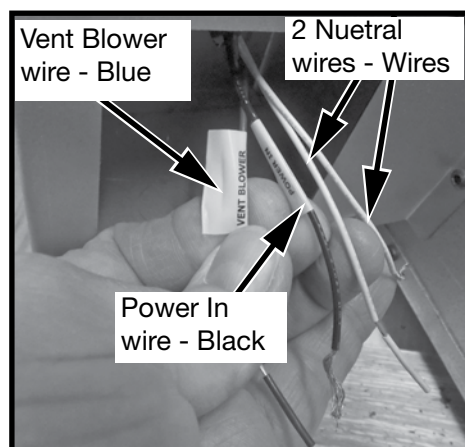
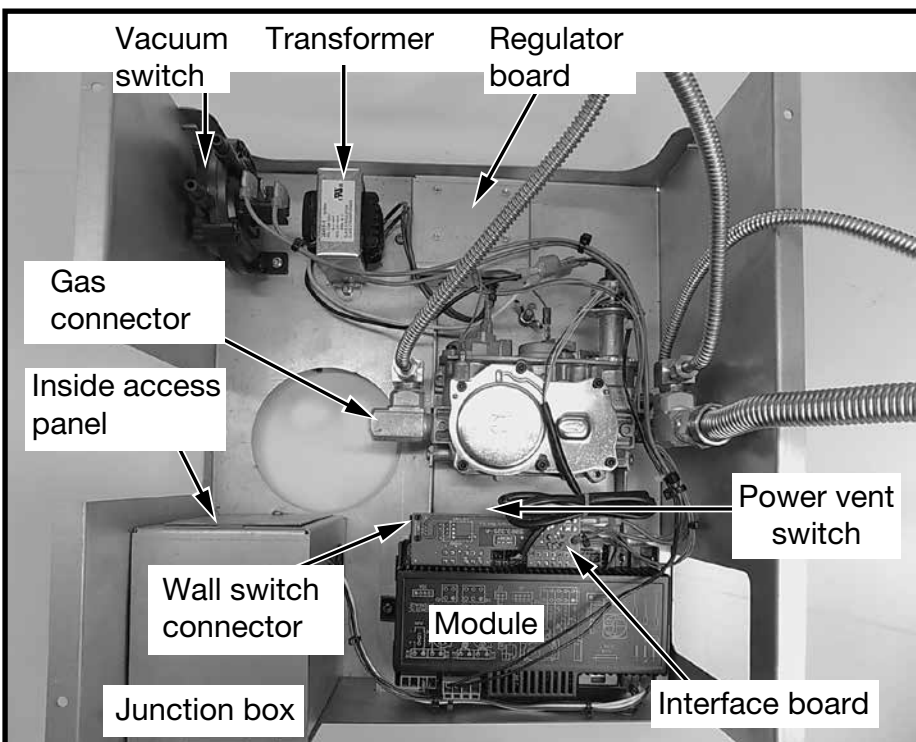
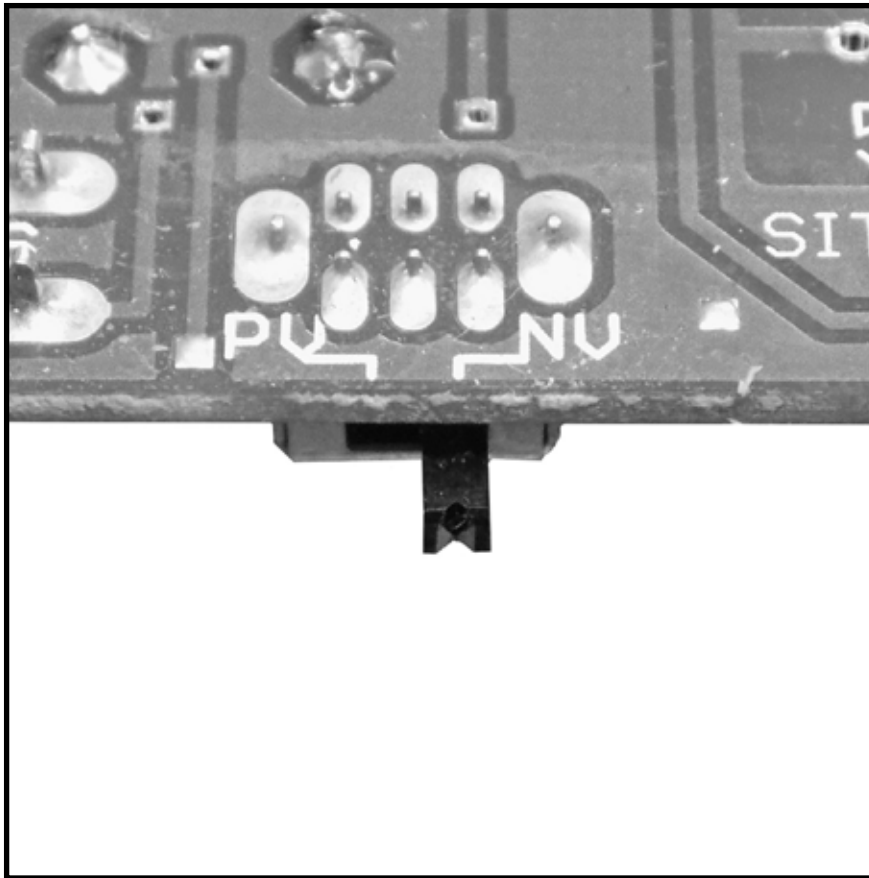

Figure 29: Junction box wiring.
Figure 30: Valve assembly components.
Figure 34: Vent mode selection switch.
4. Connect 110 V. AC electrical supply to the wires installed inside the junction box (Figure 29). The fireplace is rated at 110 volts, 60Hz, 0.25A. The optional power vent kit is rated at 115 volts, 60Hz, 1.8A.
The electrical wires can be accessed from both inside and outside the junction box by removing one of the two small access panels (Figure 29) or (Figure 30).
7. Attach one end of the wall switch control cable to the wall control. (Figure 33), and the other end to the interface board (Figure 30).
The PV / NV (Power Vent / Natural Vent) switch (Figure 34) on the interface board (Figure 30) is set according to which type of evacuating vent system is present. If the fireplace is vented without the assistance of a power vent, the switch should be set to “NV”. If using a power vent, “PV” should be selected. Follow the instructions provided with the power vent kit for proper installation.
- Connect the gas supply to the valve (Figure 30).